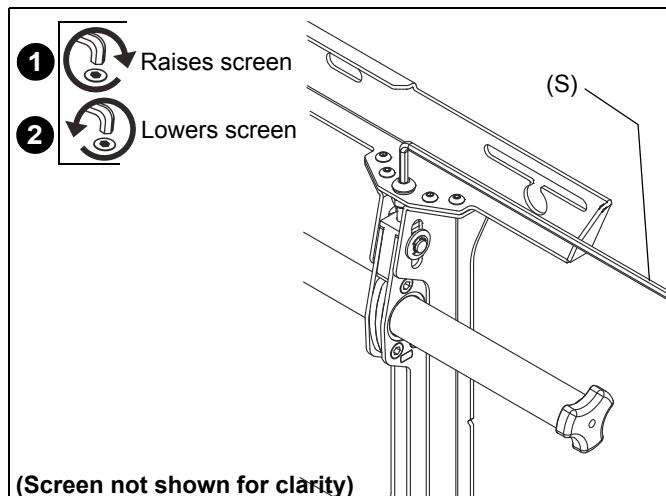

Figure 12
- Turn to right (tighten) to raise side of screen. (See Figure 12)